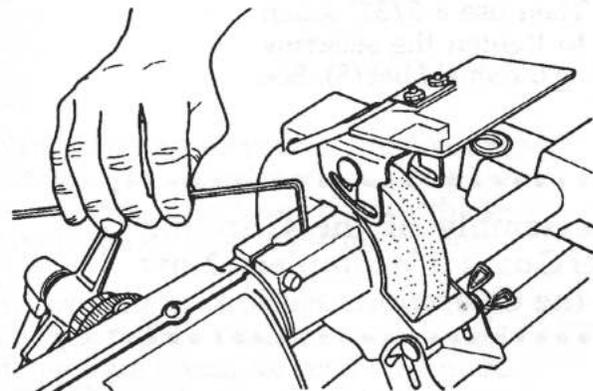

Fig. 21
22. Use a 5/32" Allen wrench to tighten the arbor setscrew (14), as in Fig. 21.